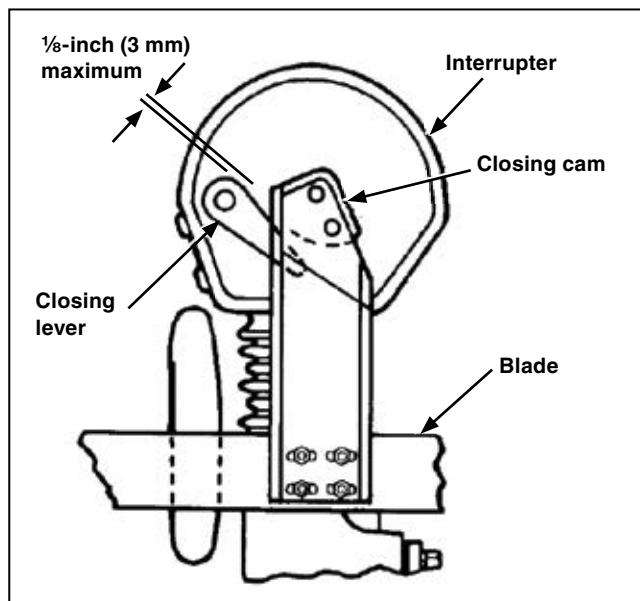

Figure 36. The blade assembly in the fully Closed position.
- (c) When the blade is in the fully **Closed** position, each blade-closing cam must overlap its respective interrupter-closing lever to prevent inadvertent opening of the interrupter, and clearance between the blade-closing cam and its respective interrupter-closing lever must be within the limit shown. See Figure 36.